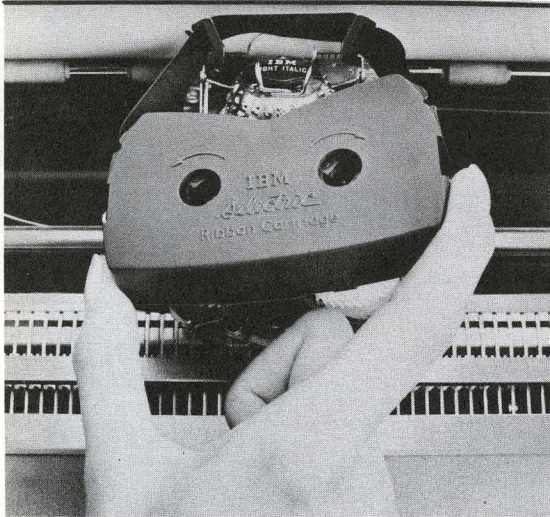

Figure 19. Slide Ribbon Down Between Card Holder and Element and Through Left Ribbon Lift
3. Slide the exposed ribbon down between the card holder and element, and then through the left ribbon lift, Figure 19.